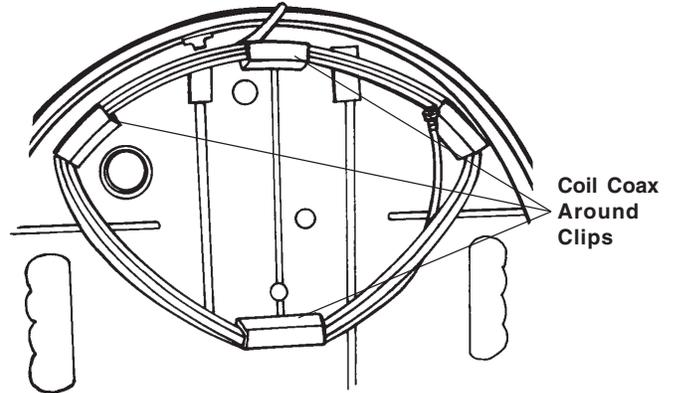

FIGURE 3
STEP 5. Coil coax under base. See Figure 3.